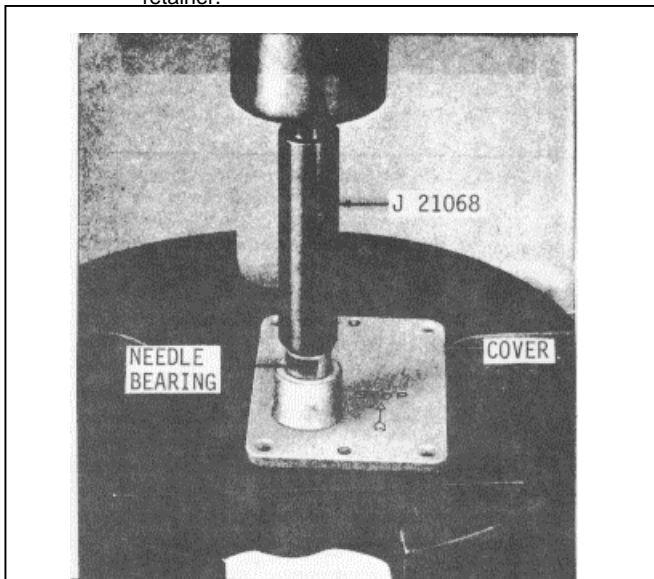

Fig. 11. Installing Needle Bearing in Governor Cover
- (1) If needle bearings are to be installed in the governor cover, place the governor cover on the bed of an arbor press with the inner face of the cover down. Start a new needle bearing straight into the bearing bore of the cover with number on the bearing up. Then insert bearing installer J 21068 (Fig. 11) in the bearing and press the bearing in until the shoulder on the tool contacts the cover.
- (2) Reverse the governor cover on the bed of the press (inner face of cover up). Start the second bearing straight into the bore of the cover with the bearing number up. Press the bearing in flush with the cover with tool J 21068.